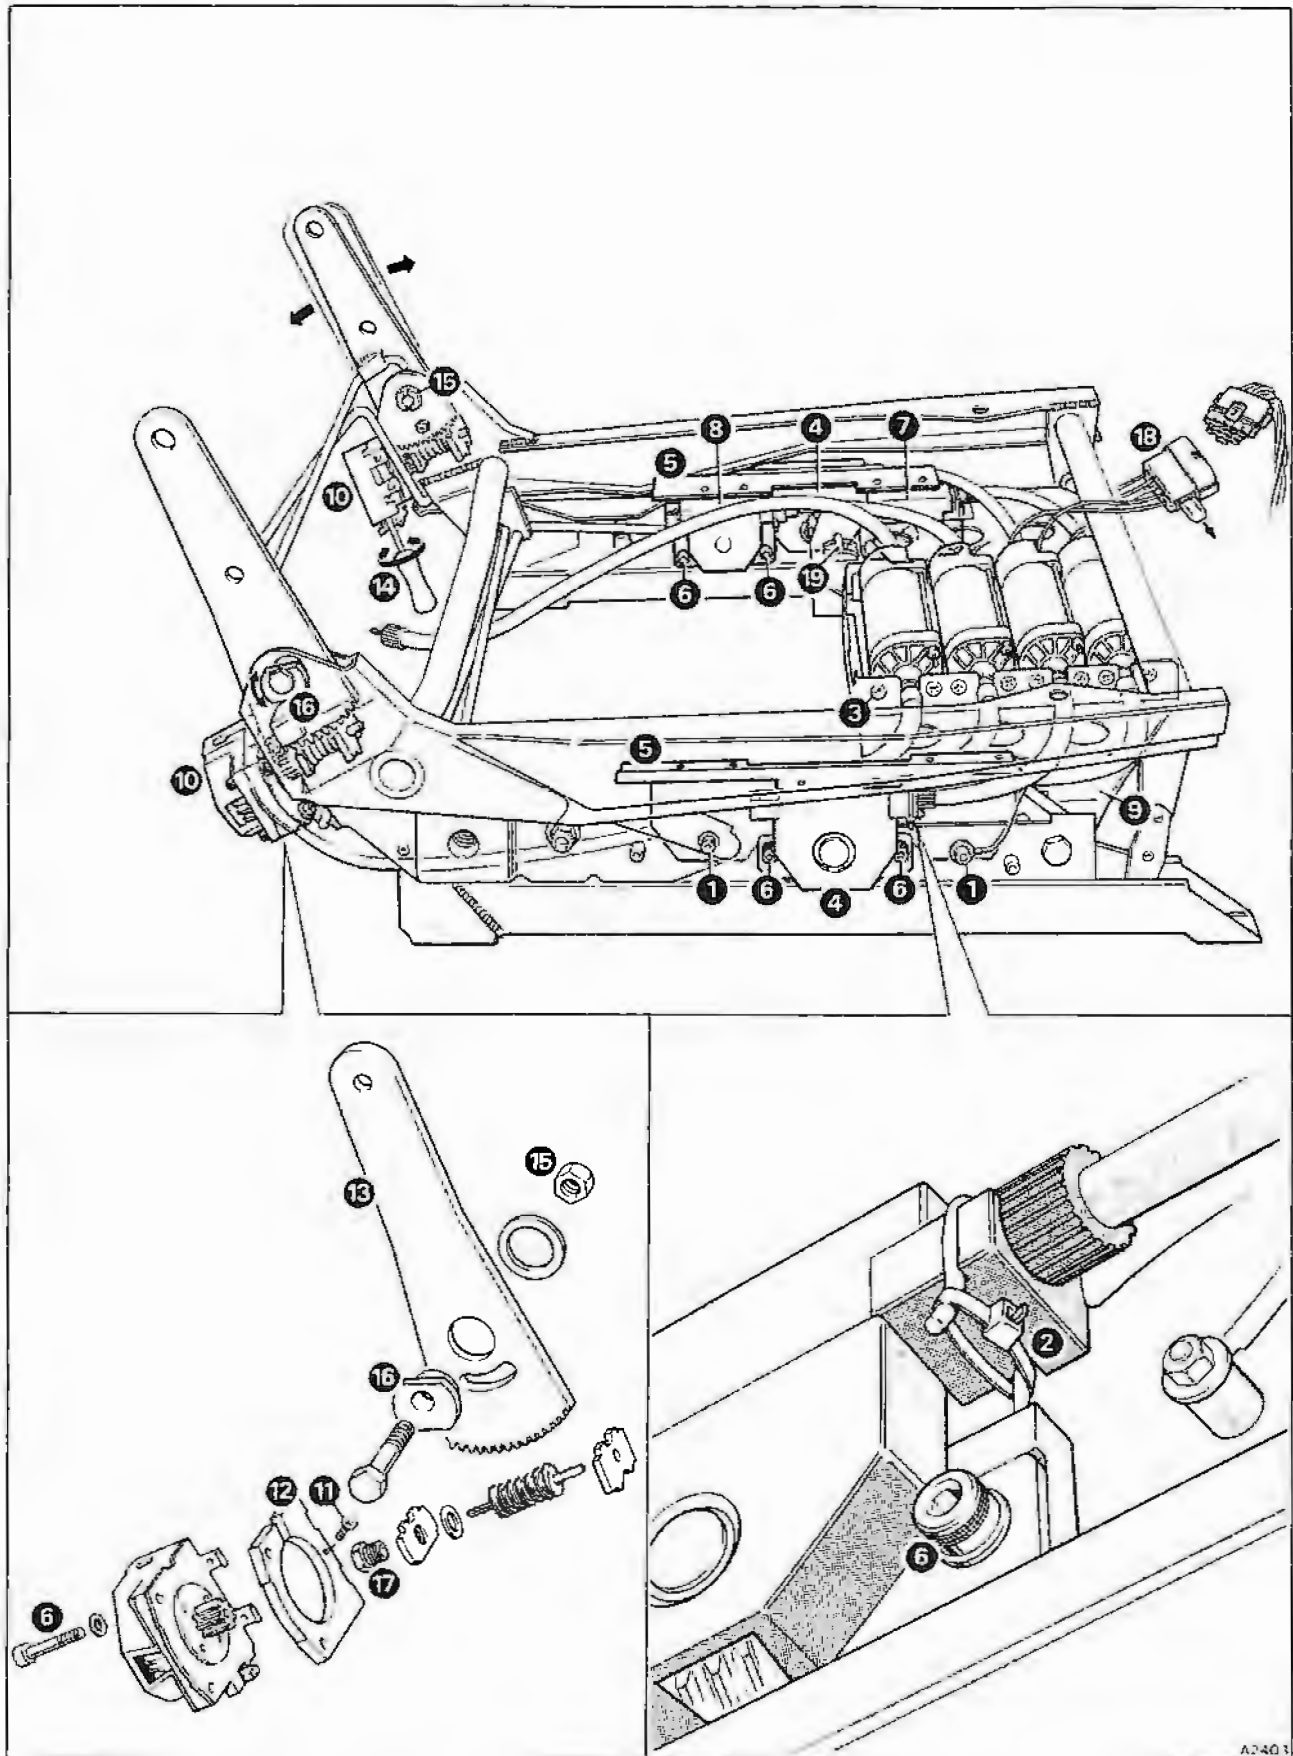

Fig. S13-2 Front seat mechanism
Drive cables – To renew (see fig. S13-2)
To renew (see fig. S13-2, item 4)
4. Unscrew and remove the plastic gearbox cover (item 5).
5. Cut and discard the plastic cable tie (item 2) and remove the drive cable securing clip.
Front tilt gearbox/rear tilt gearbox – To renew (see fig. S13-2, items 7 and 8)
5. If the front tilt gearbox (item 7) is to be renewed, release the motor mounting bracket (item 9) from the seat mechanism slide.
6. Cut and discard the plastic cable tie (item 2) and remove the drive cable securing clip. Note that a new cable tie must be fitted on assembly.
8. Remove the gearbox centre shaft nut, washer, and spacer (item 1) and release the sensor earth lead (if fitted).
10. Remove the gearbox securing bolts, nuts, and washers (item 6).
(see fig. S13-2, item 10)
5. Cut and discard the plastic cable tie (item 2) and remove the drive cable securing clip. Note that a new cable tie must be fitted on assembly.
7. Remove the gearbox securing bolts, nuts, washers, and self-tapping screw (items 6 and 11).
8. Carefully withdraw the gearbox and spacer assembly. Unscrew and remove the spacer (item 12) and discard the gearbox.
Seat mechanism twist – To correct (see fig. S13-2)
Seat squab rake adjustment (see fig. S13-2)
Motor – To renew (see fig. S13-2)
Seat memory electronic control unit (if fitted) – To renew (see fig. S13-2)